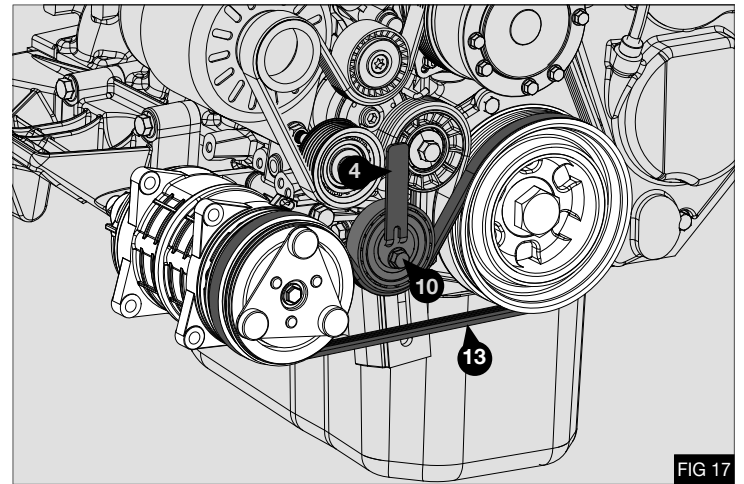
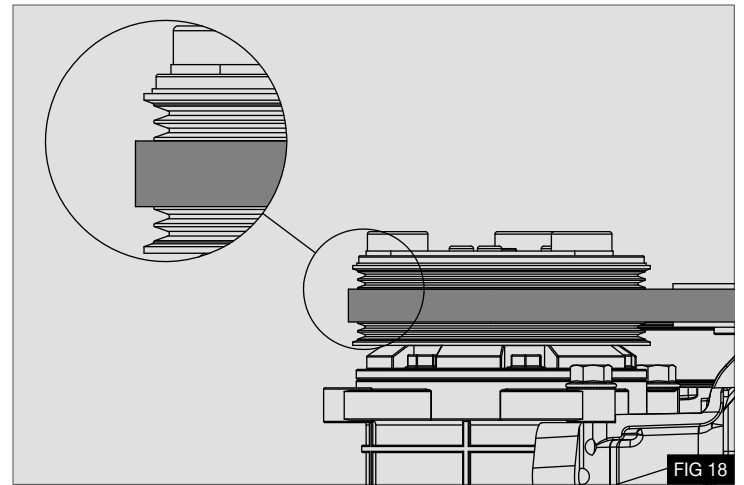

FIG 17
FIG 18
10. Fit supplied pulley (6) using original fastener (A1) - Fig 18
3. Install drive belt (13) into correct groove (Figs 18 and 19), tension belt using tool (4). Once correct tension has been achieved (see table) tighten bolt (10) - Fig 17
4. Torque bolt (10) to 25Nm / 18lbf
- TM / QUE / Sanden compressors – Belt is installed with 2 spare grooves at the front of the compressor pulley.-Fig 18